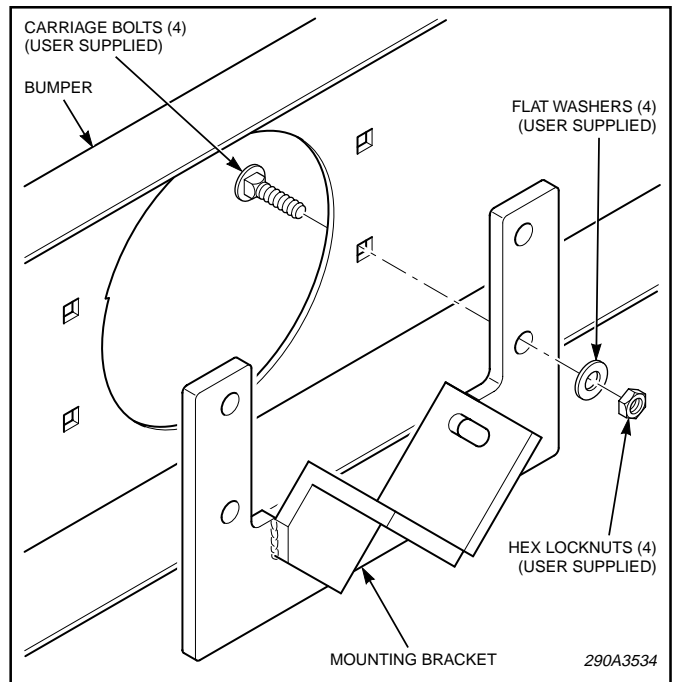

Figure 4.
- c. Secure the mounting bracket to the bumper with user-supplied hardware as shown in figure 4.